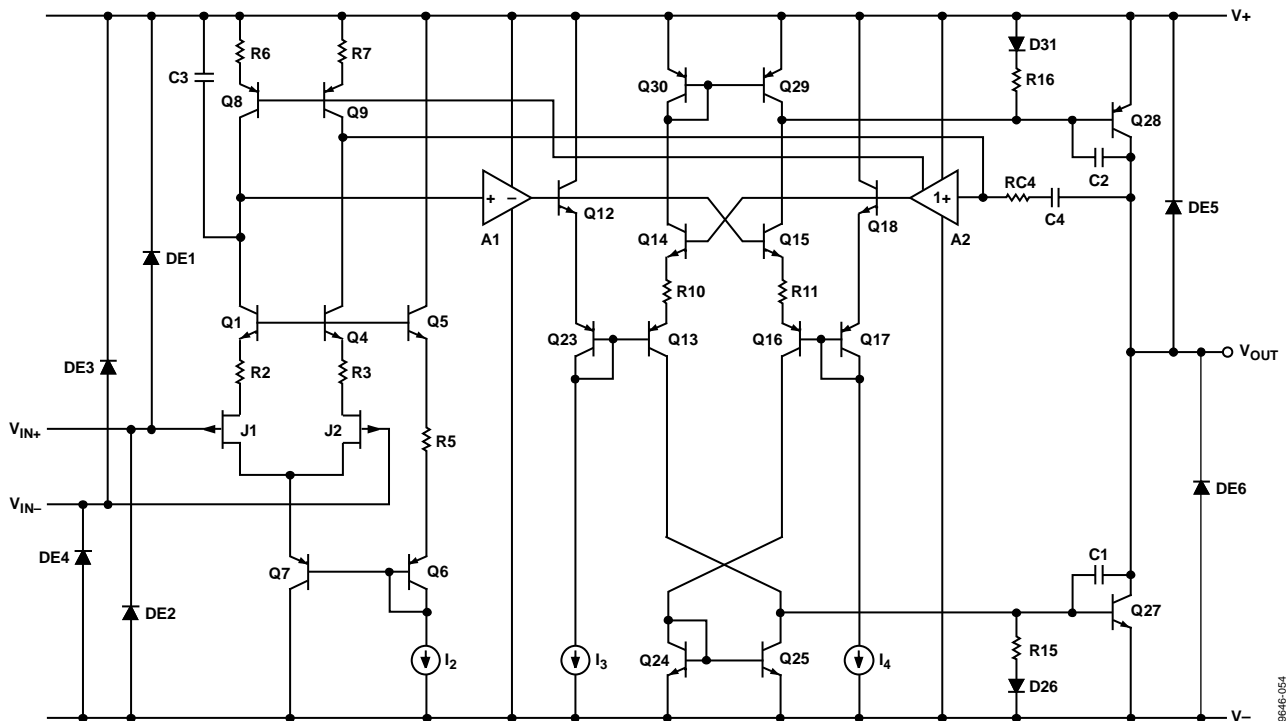

Figure 55. Simplified Schematic
The ADA4610-2/ADA4610-4 are manufactured using the Analog Devices, Inc. iPolar® process, a 36 V dielectrically isolated (DI) process with P-channel JFET technology. The unique architecture of the ADA4610x family makes it possible to combine high precision and high speed characteristics into a high voltage, low power op amp. A simplified schematic for the ADA4610-2/ADA4610-4 is shown in Figure 55. The JFET input stage architecture offers advantages of low input bias current, high bandwidth, high gain, low noise, and no phase reversal when the applied input signal exceeds the common voltage range. The output stage is rail to rail with high drive characteristics and low dropout voltage for both sinking and sourcing currents.